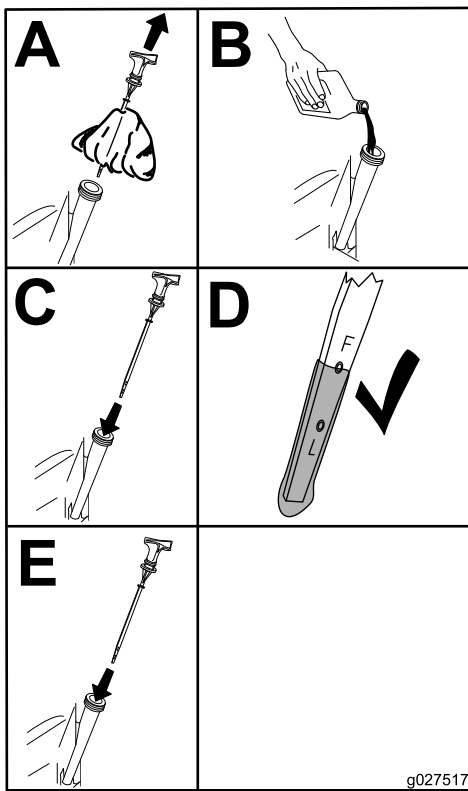

Figure 32
5. Slowly pour approximately 80% of the specified oil into the filler tube (Figure 32).